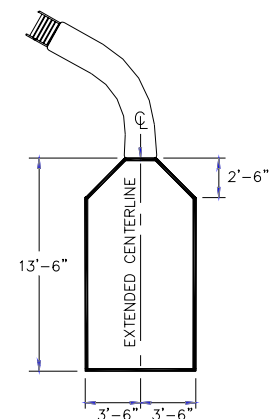

Figure 27
- A. The minimum clearance distance on either side of the extended centerline of the slide runway shall not be less than three feet six inches (3'-6") at a point no less than two feet six inches (2'-6") from the exit of the slide and extending a distance of thirteen feet six inches (13'-6") in front of the slide. (See Figure 27)